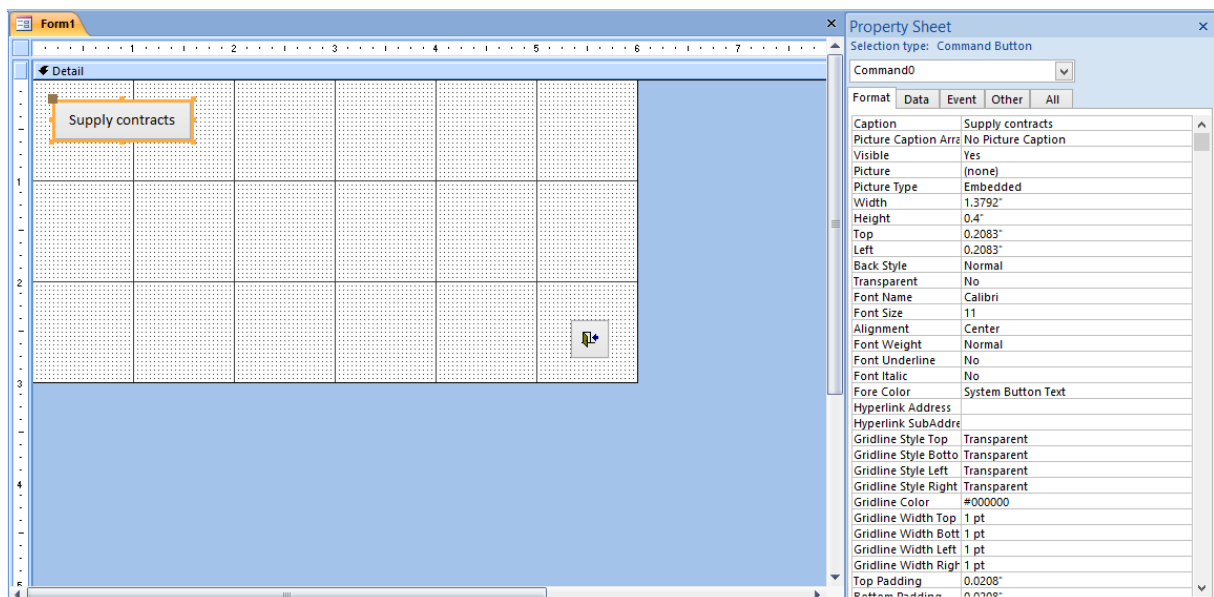

Figure 7.1
9) Check out the form layout. It should conform to the layout is shown in figure 7.1;